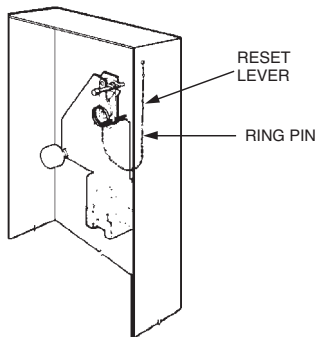

FIGURE 2
1. Make certain ring pin is in place in ANSUL AUTOMAN II-C release mechanism. See Figure 2.
- With release mechanism cocked, install ring pin. See Figure 2.